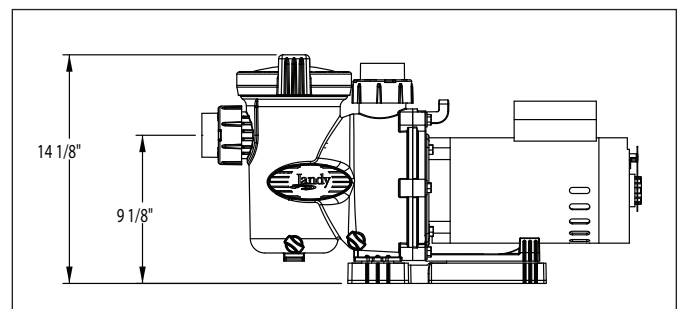

Figure 6. Place FHP with Base and Spacers on Equipment Pad
4. Place the FHP on the base assembly. See Figure 6.